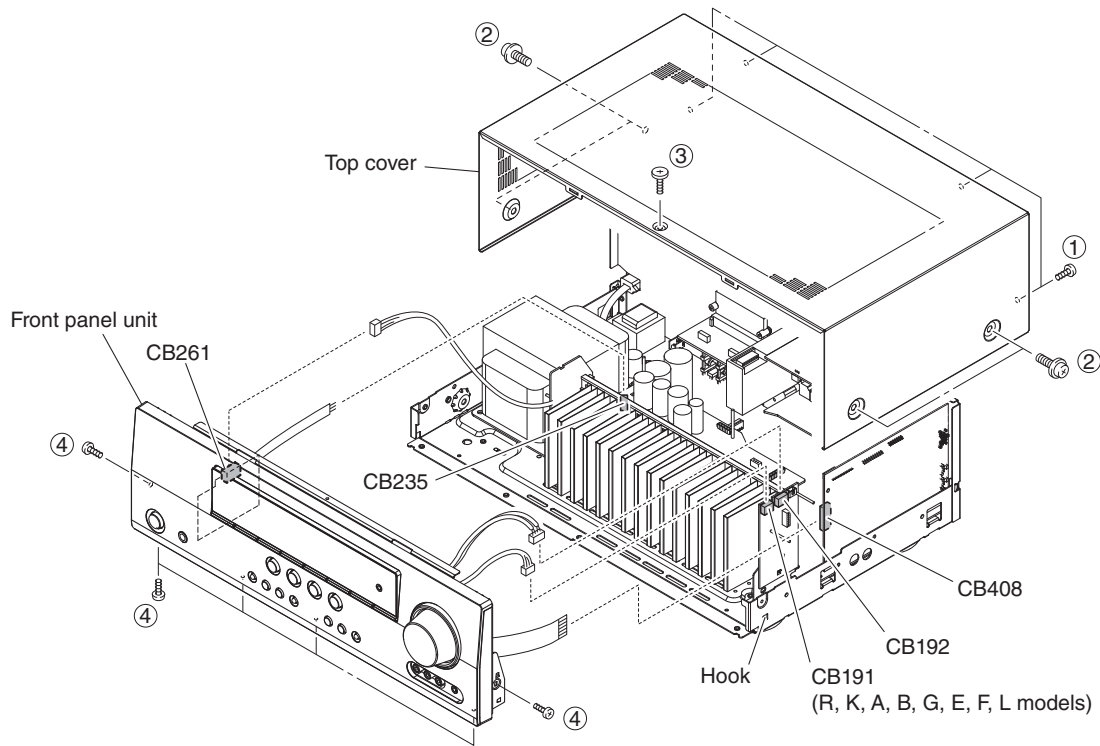

Fig. 1
- Remove 4 screws (①), 4 screws (②) and screw (③). (Fig. 1)
- Slide the top cover rearward to remove it. (Fig. 1)
- Remove 6 screws (④). (Fig. 1)
- Remove CB191 (R, K, A, B, G, E, F, L models), CB192, CB261 and CB408. (Fig. 1)
- Unlock and remove CB235. (Fig. 1)
- Release hook and then remove the front panel unit. (Fig. 1)